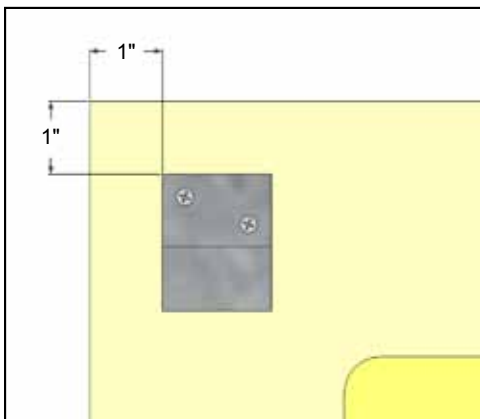

Figure 1
1. Screw in supplied z-clips to the back of the Ensemble board. (*Figures 1 and 2*)